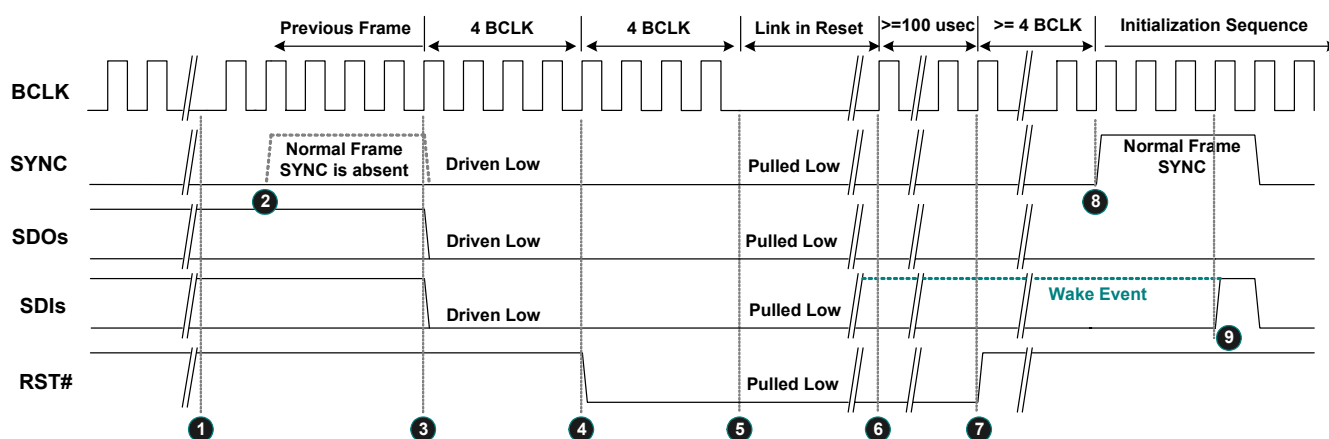

Figure 14. Link Reset Timing
3. Software initiates power management sequences. Figure 14, page 21, shows the 'Link Reset' timing including the 'Enter' sequence (❶~❺) and 'Exit' sequence (❻~❸)